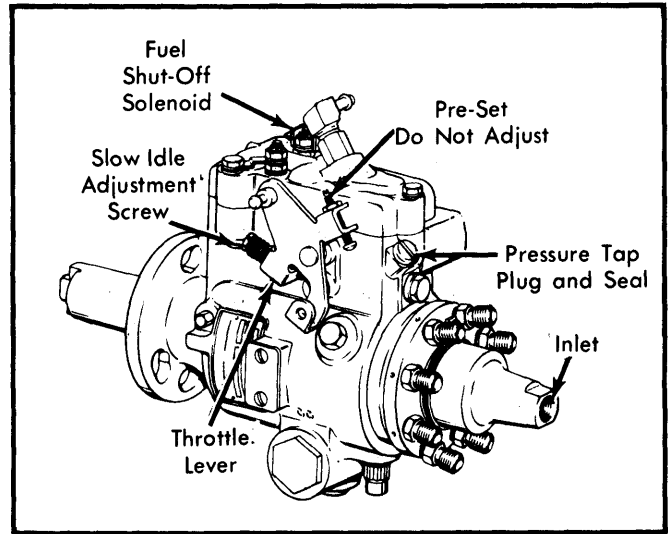

Fig. 4 Diesel Injection Pump Adjustment Locations
3) Adjust slow idle screw on injection pump (Fig. 4) to obtain specified idle speed RPM.
- 1) Remove air crossover. Install screened covers (J-26996-2). Remove fuel return pressure tap plug. See Fig. 4.